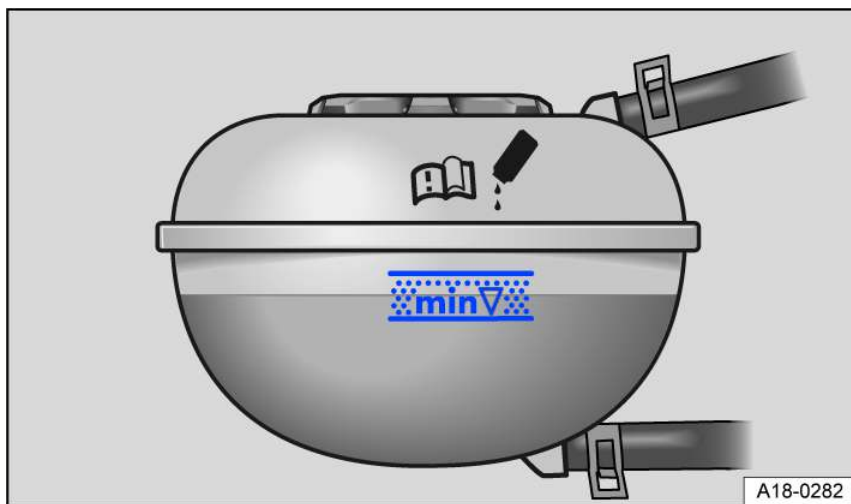

Fig. 157 In the engine compartment: markings on the engine coolant expansion tank.
1. When the engine is cold, check the coolant level using the markings on the side of the engine coolant expansion tank fig. 157. The coolant level must be between the markings.
After topping up the engine coolant, the coolant level must be between the markings on the coolant expansion tank fig. 157.